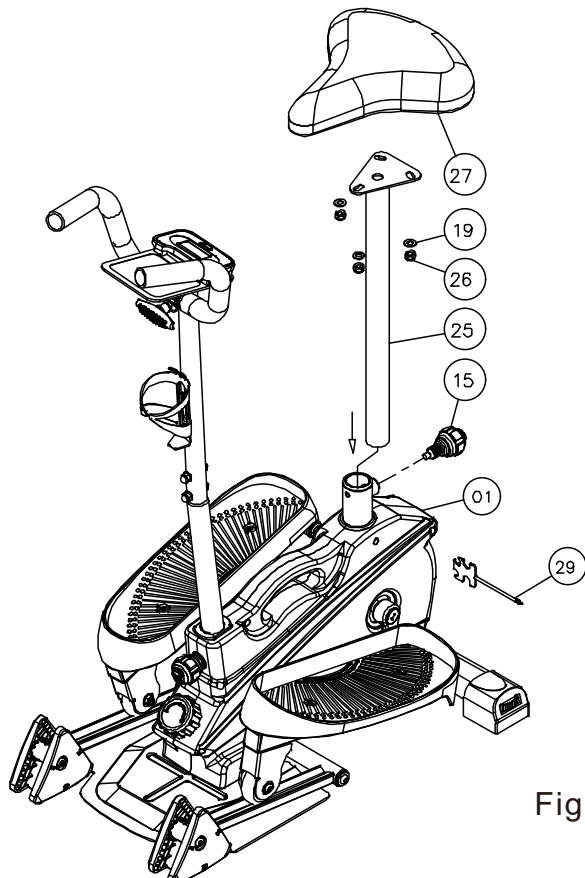

Figure 11
11. Use 3 No. 26 Locking nut and No. 19 Flat gasket to fix the No. 27 Seat cushion onto the No. 25 Seat support. Then install it on the No. 01 Main frame assembly in the direction indicated by the arrows, and lock it with a No. 15 Ball head spring knob. As shown in Figure 11: